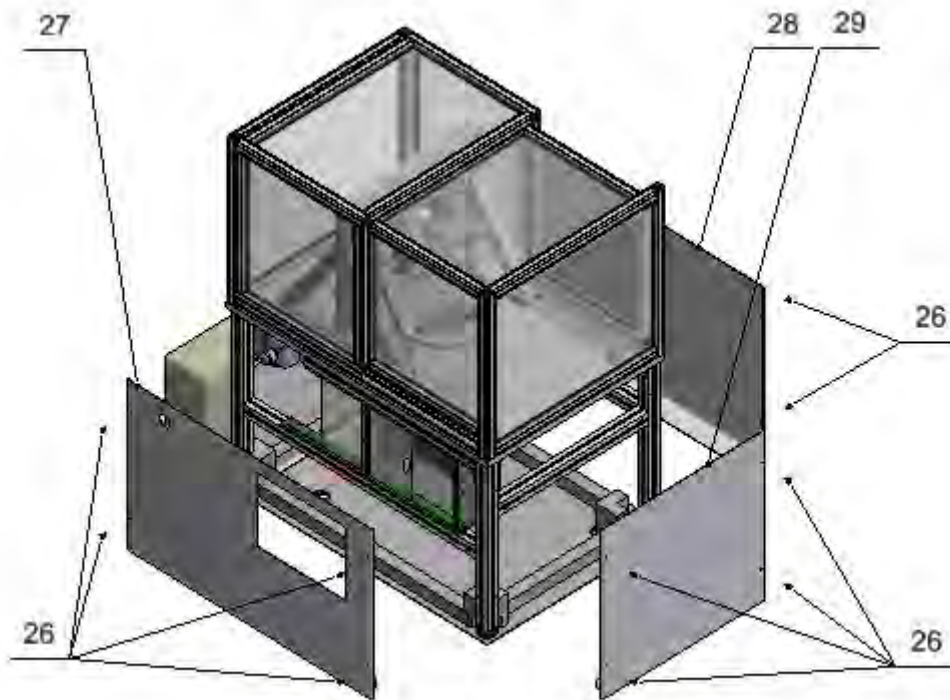

Fig.11
23. Using twelve M5x10 screws (26) remove shield (29), front shield (27) and back shield (28), being part of robot construction. (Fig. 11)
34. Using M5 screws fix front, back and side parts of the housing (Fig.11)